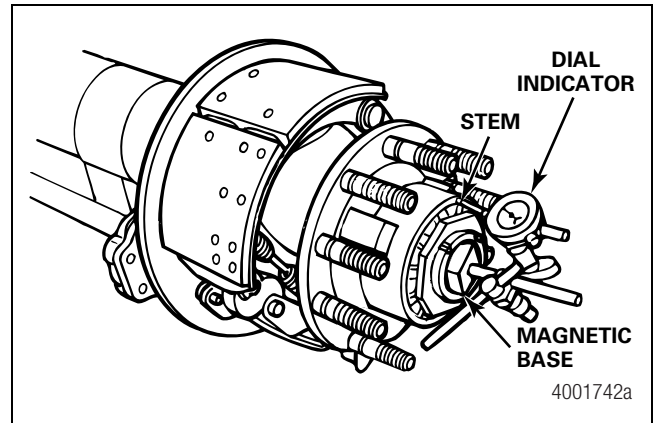

Figure 13.28
1. Attach the magnetic base of a dial indicator to the end of the axle spindle and touch the dial indicator stem against the hub. Figure 13.28.